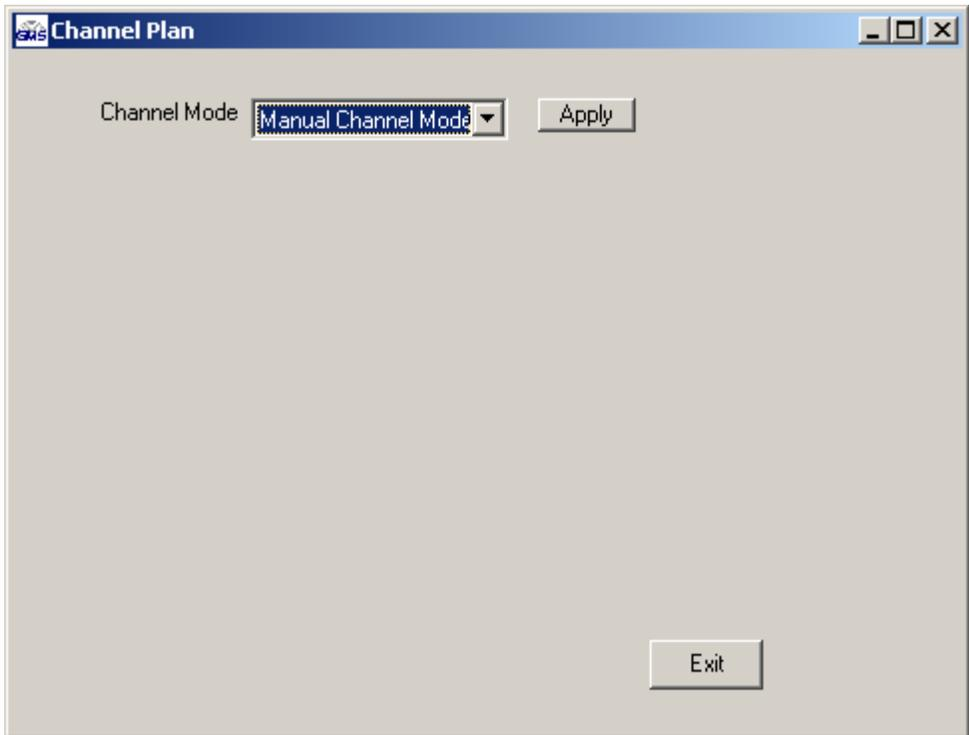

Figure 6a – Channel Plan Opening Screen
- **“Load Group” Button:** (for the CMT SD Only Units this button is located in the “SD Encoder Setup” window, see figure 6A under section 6.3.3.). The data structure of the CMT is organized into “Groups” of selected fields. A Group contains the following fields: ***Carrier Mode, Modulation Mode, COFDM Bandwidth, COFDM mode, Guard Interval, Modulation FEC, Video Frame Size, Video Frame Rate, and Vid Chroma Format.***
The Channel Plan default channel mode is Manual as shown in the opening screen in figure 6a. The other channel modes available are User Defined, and for S2 band units New BAS and Old BAS. Use the pull down box to select the channel mode and then click on the “APPLY” button. The channel mode selected here is reflected in the RF Channel text box on the front page.